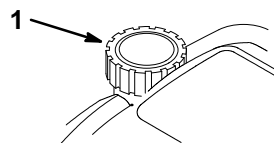

Figure 31
8. Fill the fuel tank (Fig. 31) with fresh, clean gasoline.